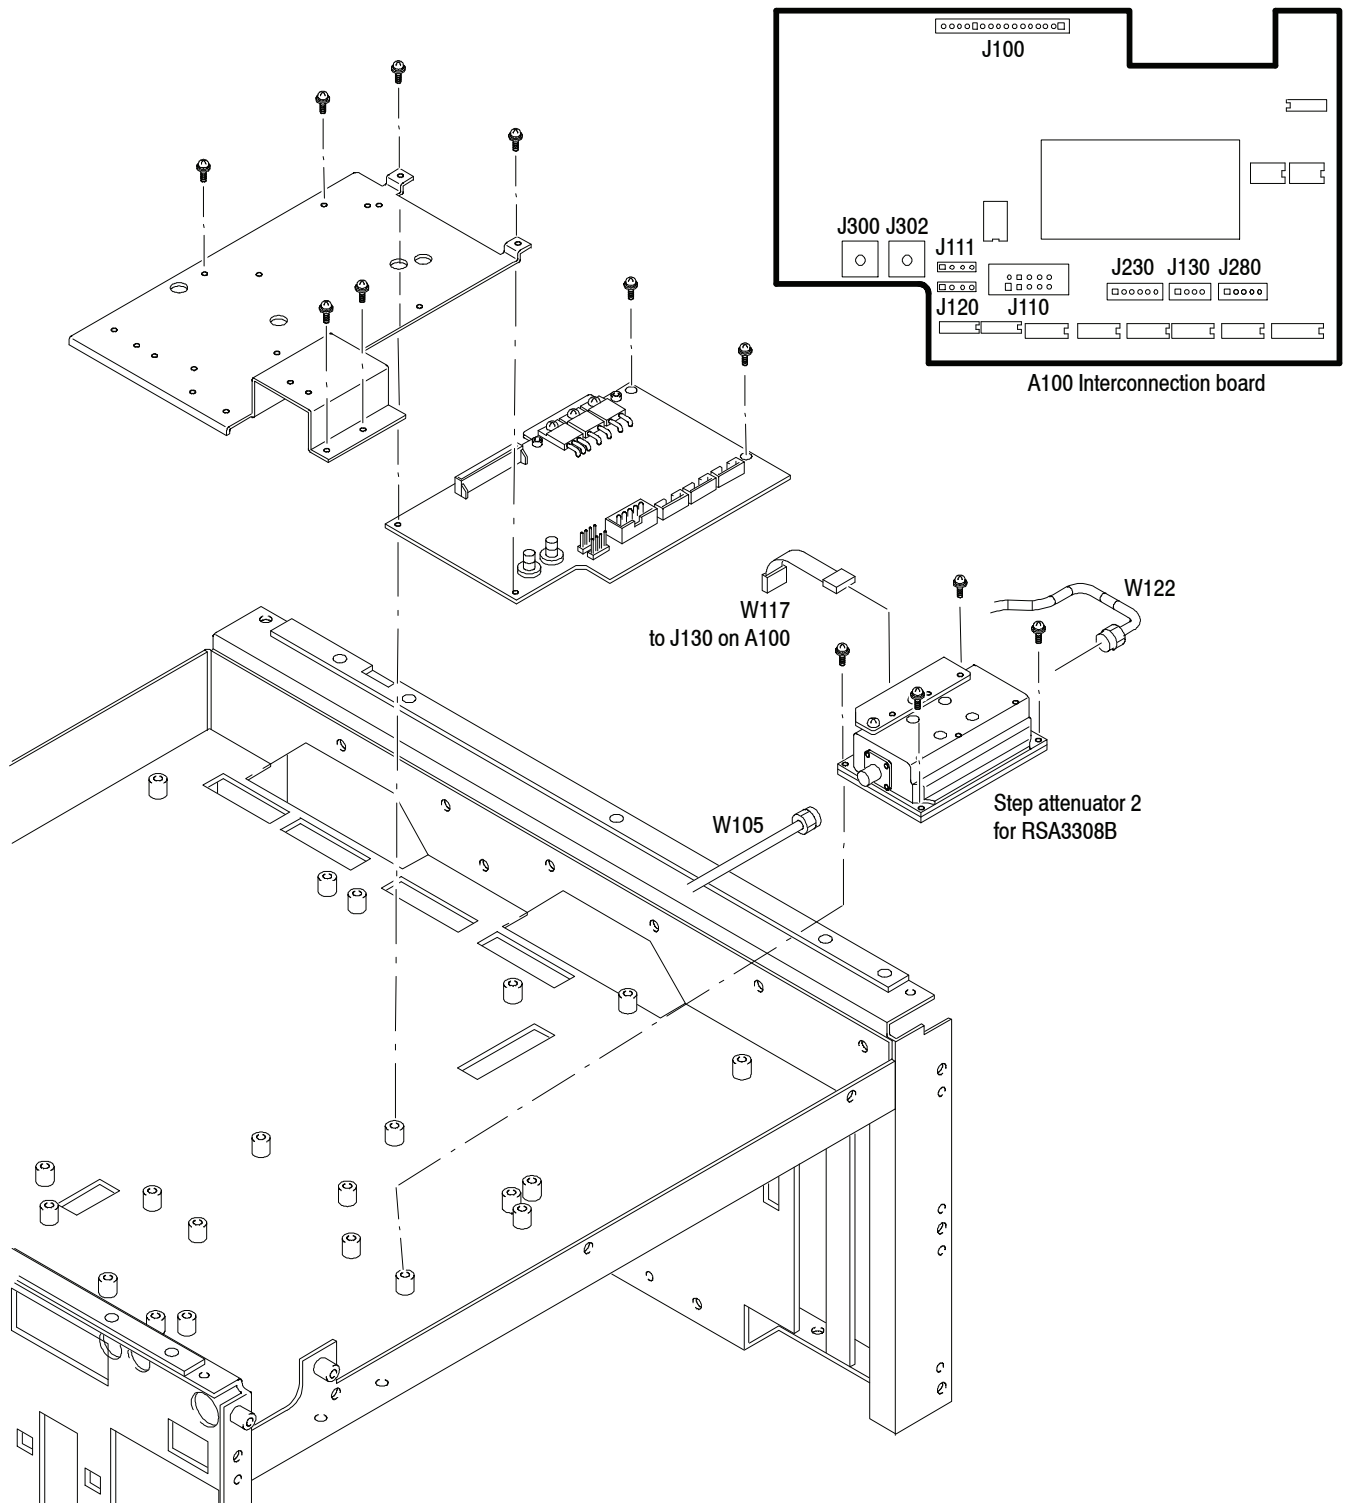

Figure 5-23: RF1 modules removal - 1
3. *Remove the A100 Interconnection board:* See Figure 5-23. Also see Figure 5-36 (RSA3303B) or 5-37 (RSA3308B) for cable interconnection.
3. *Remove the step attenuator 2:* See Figure 5-23. Also see Figure 5-37 for cable interconnection.